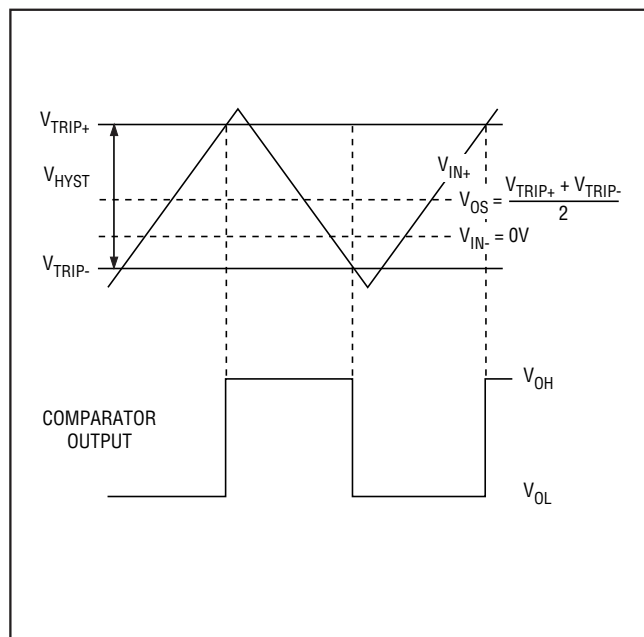

Figure 1. Input and Output Waveform, Noninverting Input Varied
**Note 2:** The input-referred trip points are the extremities of the differential input voltage required to make the comparator output change state. The difference between the upper and lower trip points is equal to the width of the input-referred hysteresis zone (see Figure 1).
**Note 3:** VOS is defined as the center of the input-referred hysteresis zone (see Figure 1).
The hysteresis in a comparator creates two trip points: one for the rising input voltage and one for the falling input voltage (Figure 1). The difference between the trip points is the hysteresis. When the comparator's input voltages are equal, the hysteresis effectively causes one comparator input voltage to move quickly past the other, thus taking the input out of the region where
Figure 1 illustrates the case where IN- is fixed and IN+ is varied. If the inputs were reversed, the figure would look the same, except the output would be inverted.